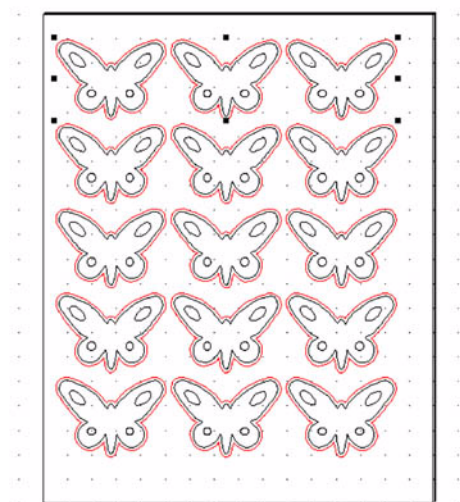

Figure 57
- 5** Click **OK** to fill the page with the image, as shown in figure 57.